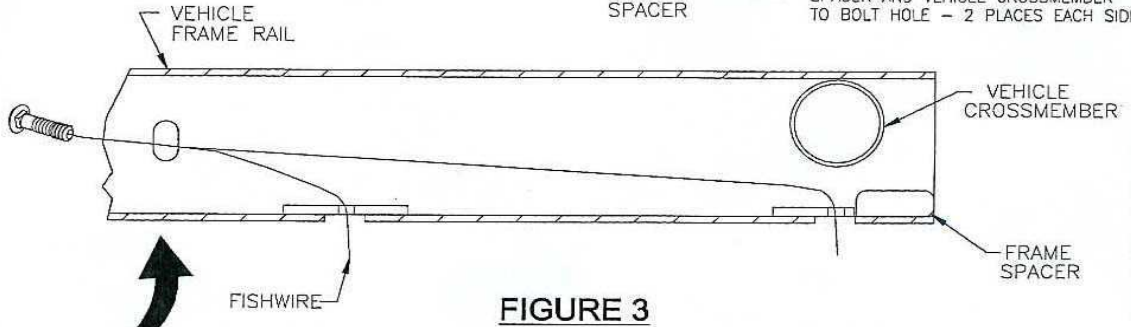
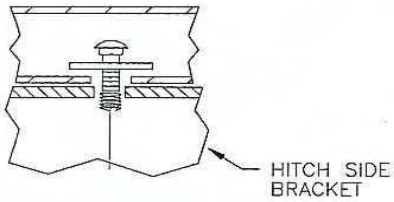

FIGURE 3
FIGURE 4
6. Cut the 6 FT. fish wire into two 3 foot pieces. Wrap the fish wire around the threads of carriage bolt. Fishwire bolts thru slots in frame ( See figure 3 ) and into square blocks pushed into frame. See figure 4.